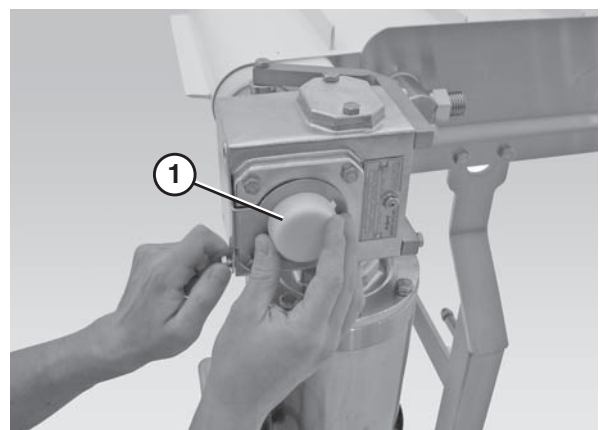

Figure 23
3. Remove the gearmotor cover (Figure 23, item 1).